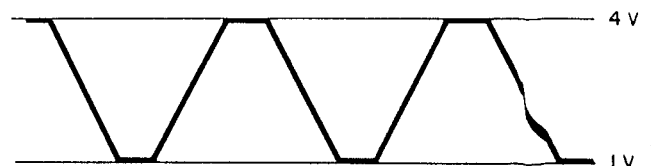

Fig. 6-4 Waveform
3. Adjust VR1 to obtain a waveform in the oscilloscope as shown in Fig. 6-4. (The top and bottom halves of this waveform should be symmetrical with a slight amount of clipping at the top and bottom).